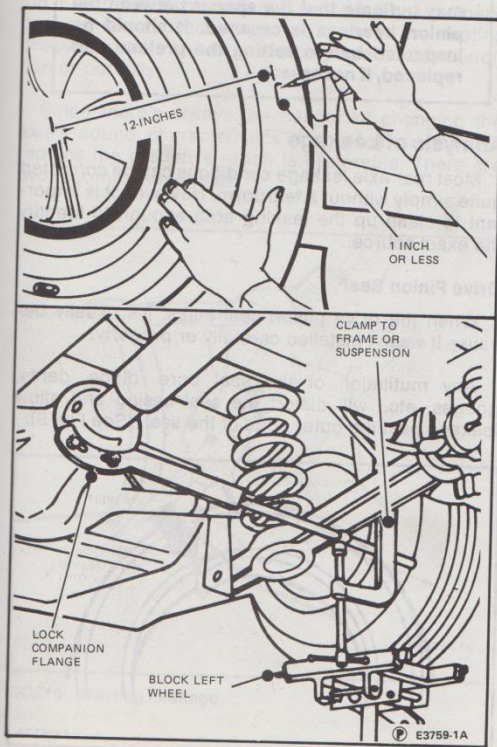

FIG. 5 Checking Total Axle Backlash
4. Turn the right wheel slowly until you "feel" it in a drive condition. Hold a chalk marker on the side of the tire 12 inches from the center of the wheel (Fig. 5).